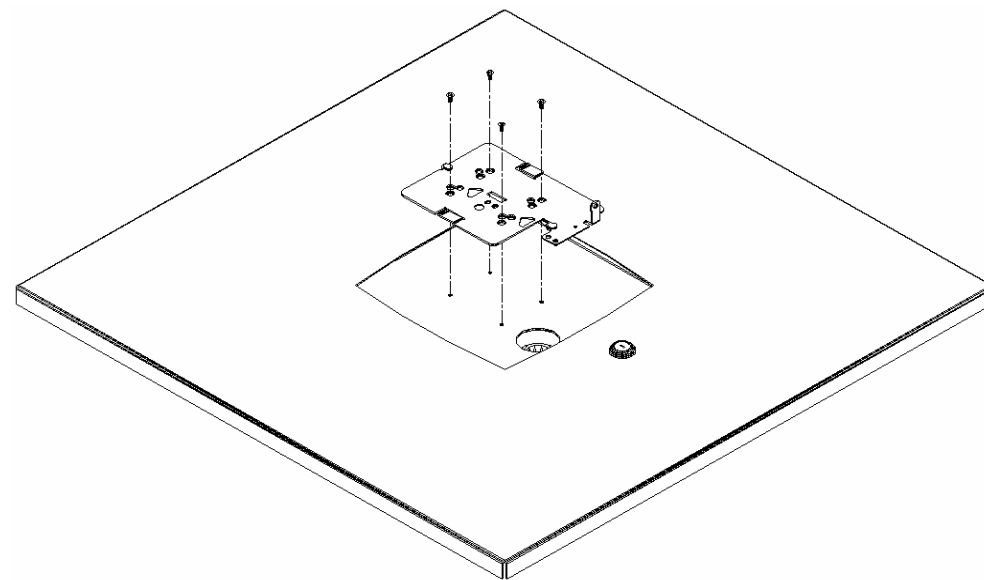

Figure 2 – Installation of the Cisco Mounting Plate
Step 3 – Turn the AP mount over so that the access point opening is facing upward. Install the mounting plate using four (4) #6-32 flat head screws (included with the Cisco 1130AG Access point). The raised lock tab should be facing the key lock on the AP mount as in as shown in Figure 2. Install the screws in the Cisco mounting plate using the holes designated as "A"